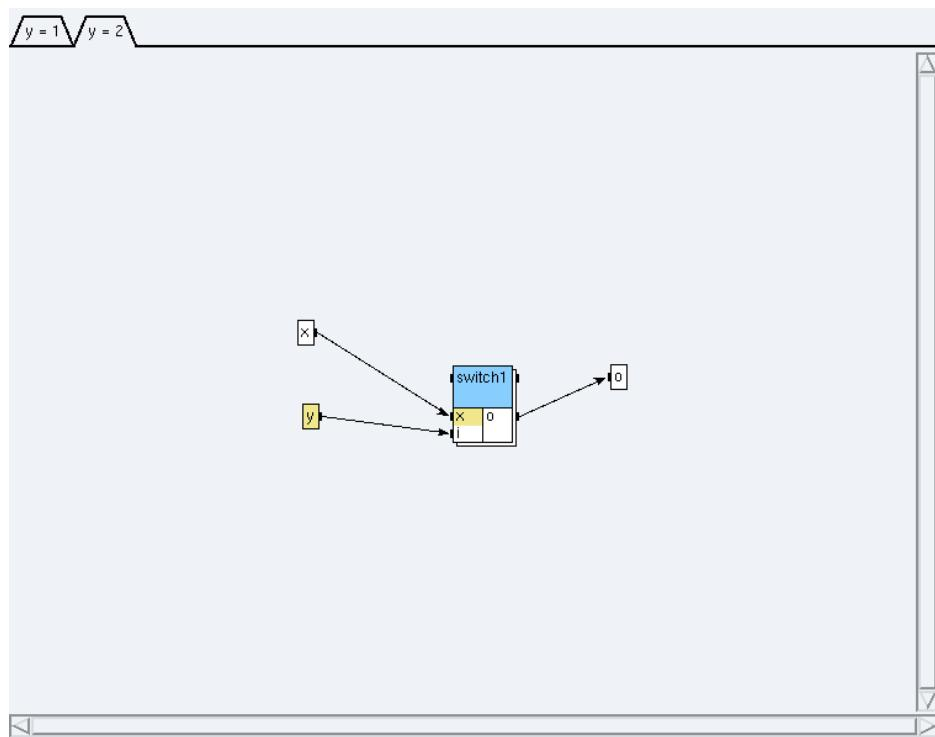

Figure 5.8: Condition $y=2$
- click on the condition $y=2$ (*cf.* figure 5.8) and create a reference `switch1` to the definition **switch1**;